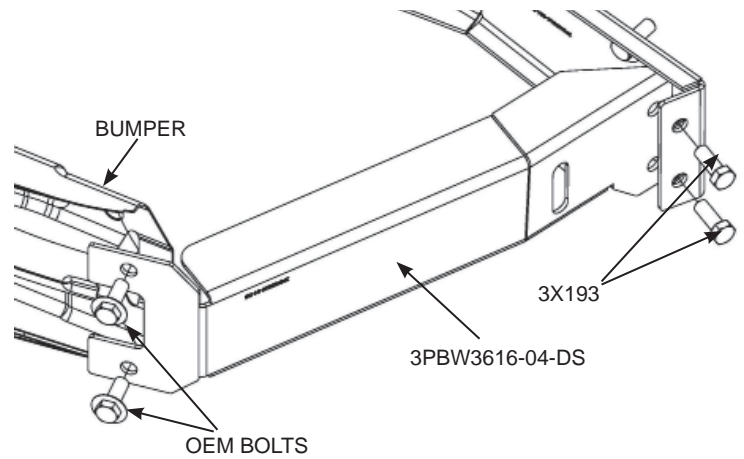

FIG. 2
B. Fasten front bracket 3PBW3616-04-DS to previously installed rear bracket using 3X193 bolts threaded into rear bracket weld nuts. Fasten front of bracket to bumper using OEM bolts. (Fig. 2)